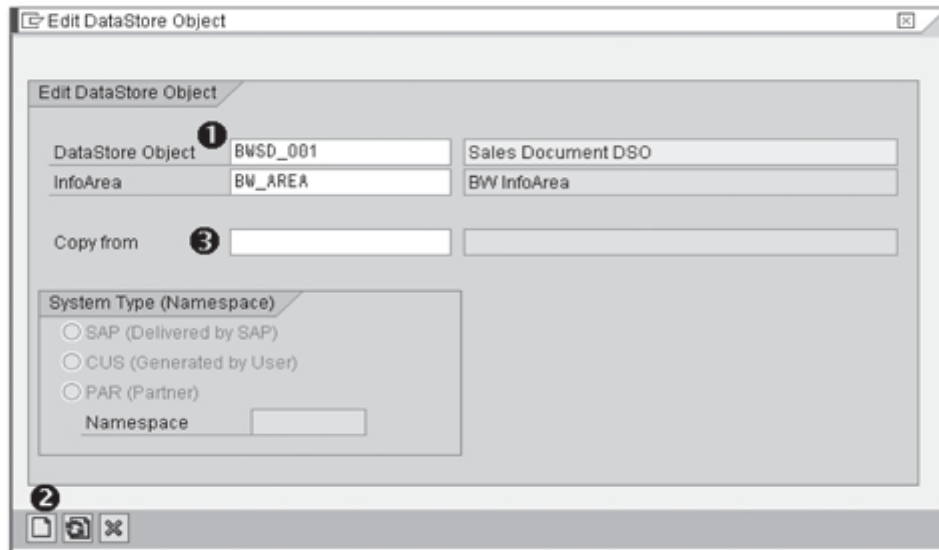

Figure 4.9 Edit DataStore Object: Entering Name and Description
Using the context menu of InfoArea BW_AREA, select the Create DataStore Object option (❸). A pop-up box titled Edit DataStore Object appears (Figure 4.9).
DSOs require a unique technical name and description. In this example, we use the technical name "BWSD_O01" and the description "Sales Document DSO," as shown in ❶ of Figure 4.9. If you're creating a DSO that is similar to another DSO in the SAP NetWeaver BW system, you can copy the structure of that DSO by entering its name in the Copy From field (❷).